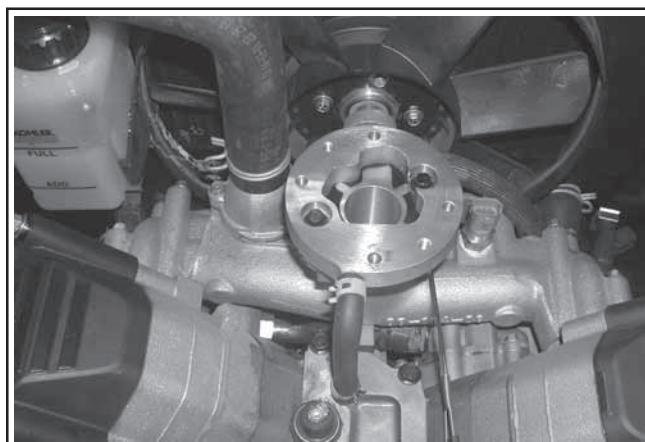

Figure 26. EFI Throttle Body Manifold.
3. Turn the low idle speed adjusting screw in or out and check RPM with a tachometer. See Figure 26.